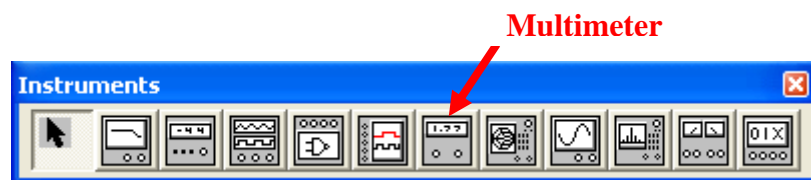

Figure 13: Instruments Toolbar
- a. Select **View** → **Toolbar** → **Instruments**. The Instruments toolbar will open as shown in Fig. 13.